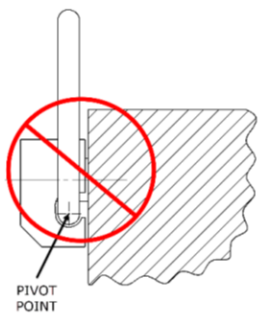

Fig 7
- When pulling Side Swivel hoist ring installed on a side of the lifted object the pivot point MUST be above the bolt axis (Fig.7).